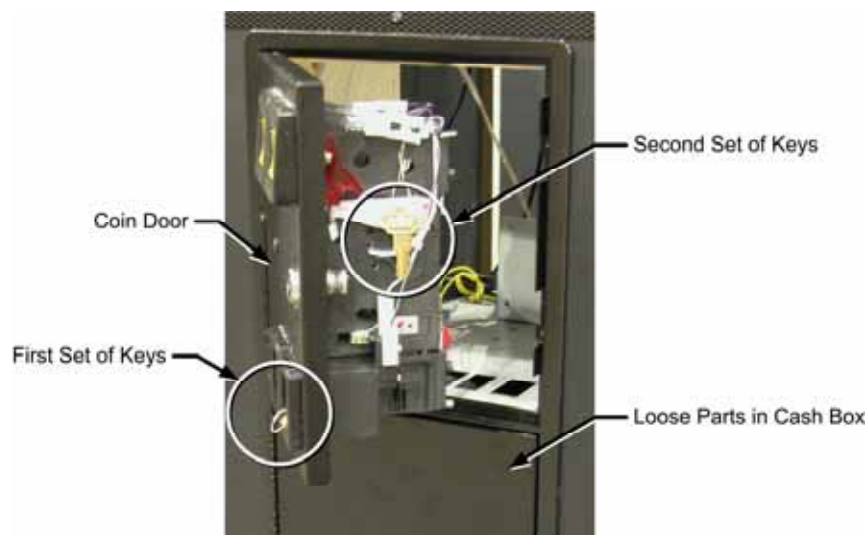

Figure 2. Coin Door with Key Locations
- Remove the keys from the coin return slot of each coin mech in the player consoles. Open each coin door to locate the second set of keys (see Figure 2). The keys for the rear doors should be in the Player-1 console coin door.
- Fifteen (15) ¼-20 x 1½" Torx security bolts with washers
- Sixteen (16) ¼-20 x 1½" hex bolts with washers
- Eight (8) ¼-20 x 2¼" Torx[®] security bolts with lock washers and flat washers